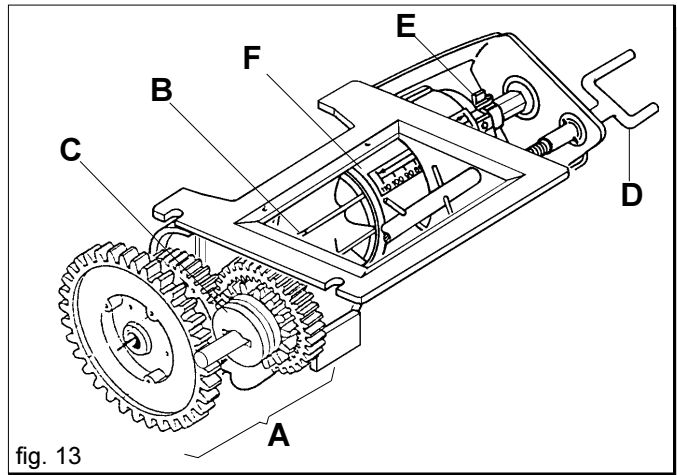
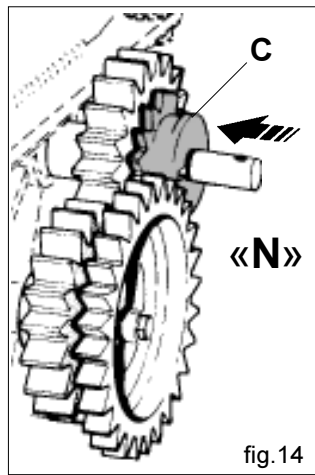
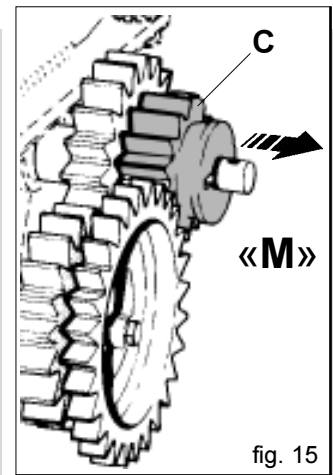
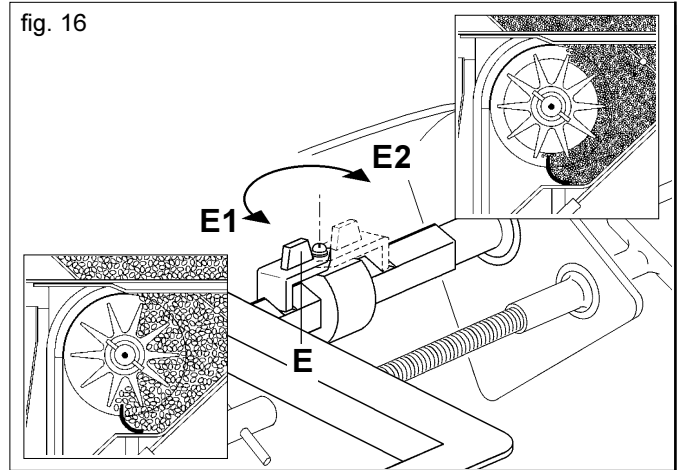

fig. 13
fig. 14
fig. 15
fig. 16
The doser (Fig. 13) the most important part for seeder operation, is located underneath the seed hopper. Motive power is transmitted to it by the drive wheel through gears (with ratios proportional to the width of the work to be carried out) and chains. Thanks to a gearbox (A Fig. 13) it allows the distributor roller (B) to operate with two gear ratios, by changing the position of the red toothed wheel (C Fig. 13, 14, 15). In position «N» (Fig. 14), the gear ratio is 1:1, as imposed by the pair of toothed wheels Z19; when the wheel (C) is shifted to the «M» (Fig. 15) position, the distributor wheel halves the number of revolutions, as the drive is then composed of the red drive wheel Z14 and the drawn wheel Z28. When a dosing test, as described in chapter 3.3.2, is performed, it may be observed that the quantity of product distributed is halved (see Table 4-5) compared to the test using ratio 1:1. The position «M» of the toothed wheel (C) is necessary for the distribution of small seeds and quantities.
The locking spring (E Fig. 13, 16) enables the opening range of the gate to be modified which, in turn, modifies the capacity of the dosing roller at the same time. The position «E1» (Fig. 16) enables the gate to be opened on a graduated scale, ranging from 0 to 110, with maximum capacity of the dosing roller; in the «E2» position, on the other hand, there is a gate opening range of 0 to 25 and the capacity of the roller is reduced. It is important always to remember to close the gate completely (0 on the graduated scale) in order to invert the position of the locking spring (E).
The distributed seed quantity per hectare is adjusted by the seed distributor (Fig. 13) by moving the graduated slide valve accordingly (F) with the screw staff (D). The positions of the distributor scale correspond to the adjusting table values in the left column (Table 4 and 5, page 32).